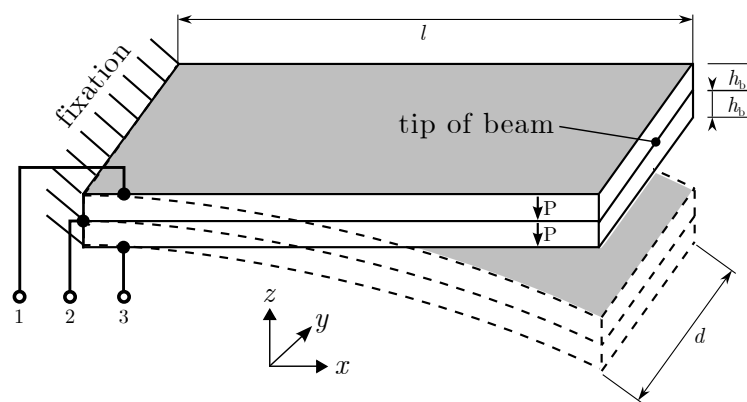

Figure 1: Parallel piezoelectric bimorph actuator
Figure 1 shows a parallel piezoelectric bimorph actuator. It consists of two piezoelectric plates which are polarized in the same direction and which are glued together along one common electrode. Driving the two glued plates with appropriate electric fields will lead to a bending of the whole actuator as depicted in the figure. This effect is used in injection valves, acoustic generators (buzzers), etc. For the given assignment, both plates shall be made of PZT-5H and have a height  $h_b$ , a length  $l$  and a depth  $d$ . The overall assembly is fixed at the left hand side (over the whole surface). Furthermore, the top, bottom and gluing surfaces are metalized and shall be considered as ideal electrodes.
- 1.2. Model the geometry similar to Fig. 1 but with only half the depth  $d$ . You will use a symmetry boundary condition in your physics to represent the other half. Define all required dimensions as **Parameters** and use the following values: